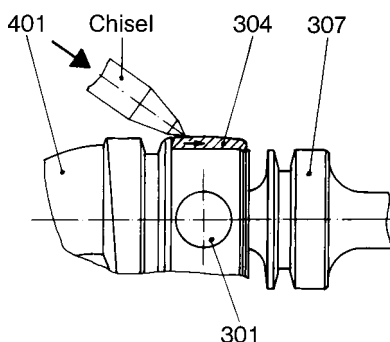

Figure 3: Dismounting the retaining sleeve.
- Dismount stator (402) (please refer to Section 7.2.1.1 above).
- Withdraw suction casing (505) over the rotor (401). In doing so, see to it that the precision-machined rotor is not damaged.
- Remove gasket for suction casing (501).
- By means of a screw driver, lift cover sleeve (308) and withdraw axially towards the coupling rod (307).
- Drive retaining sleeve (304) over the collar of the coupling rod (307). In doing so, do not deflect coupling rod (307) (please refer to Figure 3 below).